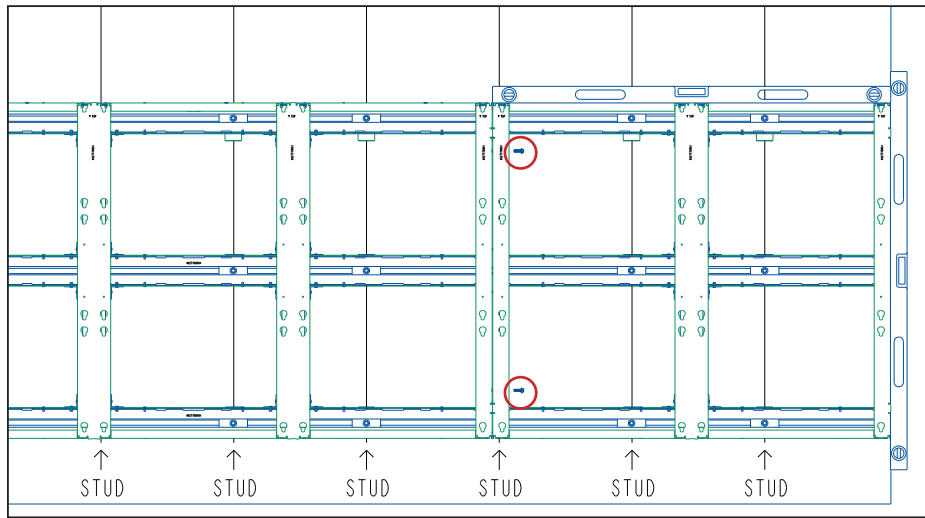

Figure 7: Install Stitch Bolts
- Install the supplied stitch bolts (HC-1842). Refer to **Figure 7**.